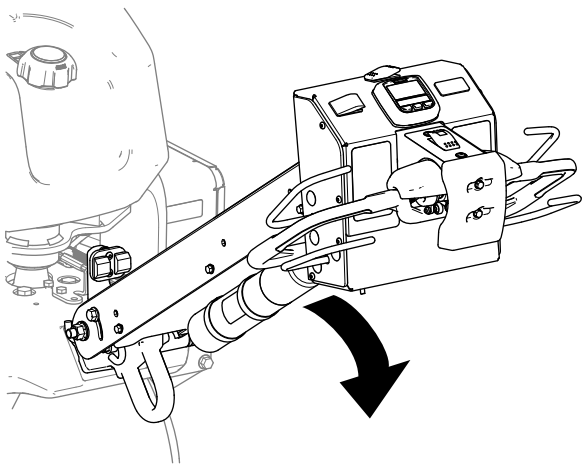

Figure 76
2. Lower the handlebar to release the parking brake (Figure 76).